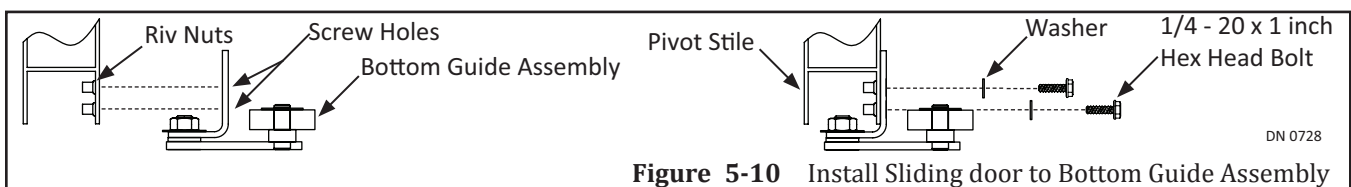

Figure 5-10 Install Sliding door to Bottom Guide Assembly
7. Position Bottom Guide Assembly over Rivet nuts on Pivot Stile of Slide door. Please see Figure 5-10.
9. Line up the (2) screw holes located on the Bottom Guide Assembly to the (2) rivnuts located on the Pivot Stile.
10. Secure the Bottom Guide Assembly to the Pivot Stile with (2) Washers and (2) 1/4 - 20 x 1 inch Hex Head bolts.